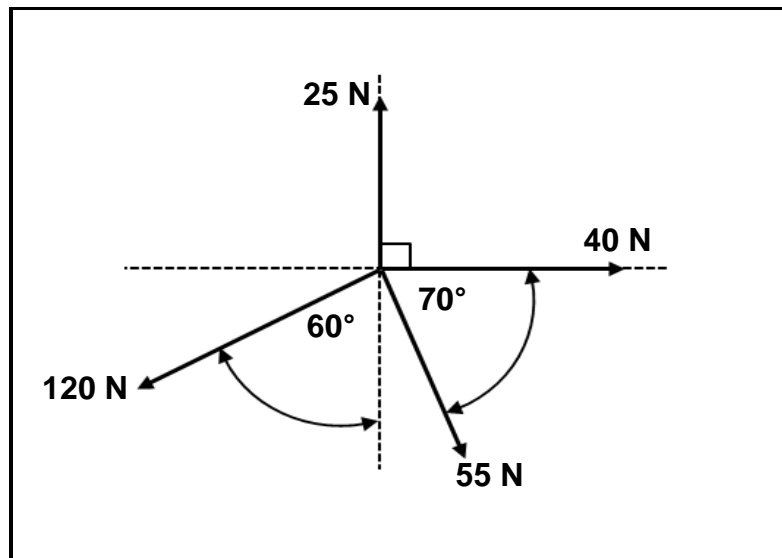

FIGURE 8.1
- 8.1 FIGURE 8.1 below shows a system of four forces acting on the same point. Answer the questions that follow.
HINT: Draw and complete the diagram for the forces shown in FIGURE 8.1. Show ALL the horizontal and vertical components before doing the calculations.